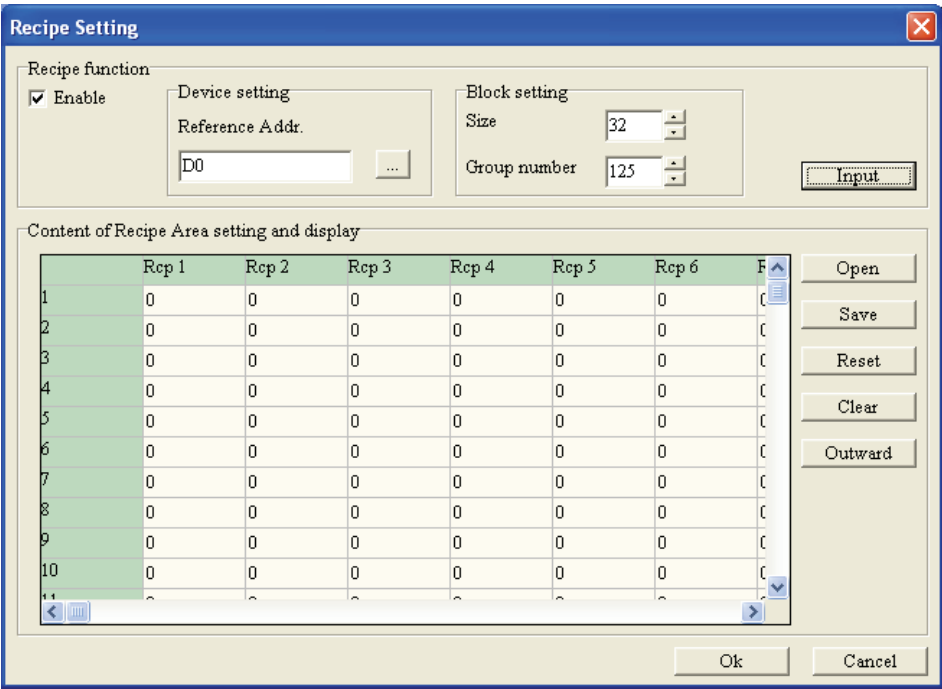

Figure 1-98
Step 1. Click **Global Settings(G) > Recipe function(R)** from the menu bar to activate the Recipe function. In Recipe Setting tab, complete the settings of Device setting and Block setting option (Size: 32, Group number: 125). Then, click **OK** button to save all settings (Figure 1-98).